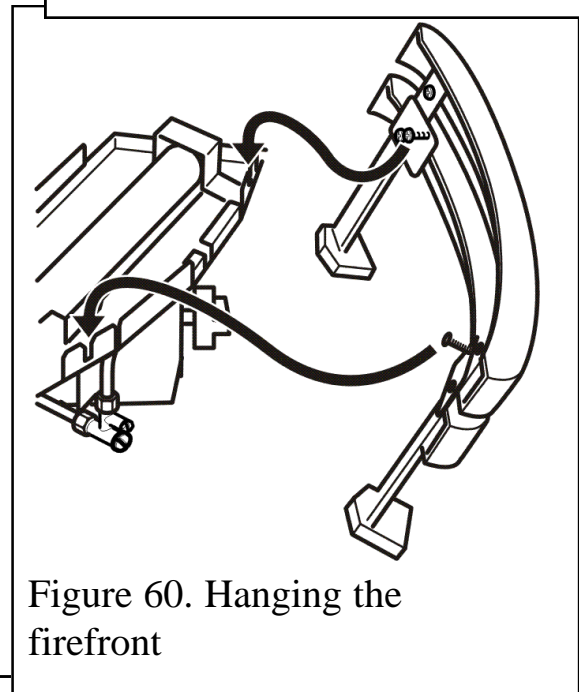

Figure 60. Hanging the firefront
3. Locate the firefront as in figure 60. The screw heads should locate into the slots in the burner tray.